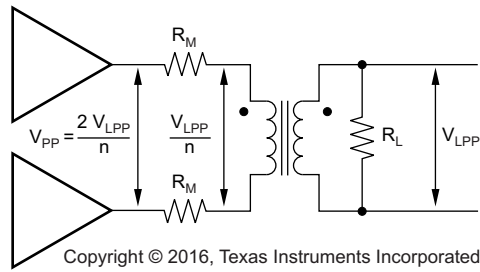

Figure 85. Driver Peak Output Voltage
- $R_M$  is as defined in Equation 7 and Figure 85
The two output stages used to drive the load of Figure 85 are shown as an H-Bridge in Figure 88. The average current drawn from the supply into this H-Bridge and load is the peak current in the load given by Equation 13 divided by the crest factor (CF) for the signal modulation. This total power from the supply is then reduced by the power in  $R_T$ , leaving the power dissipated internal to the drivers in the four output stage transistors. That power is simply the target line power used in Equation 8 plus the power lost in the matching elements ( $R_M$ ). In the following examples, a perfect match is targeted giving the same power in the matching elements as in the load. The output stage power is then set by Equation 17.